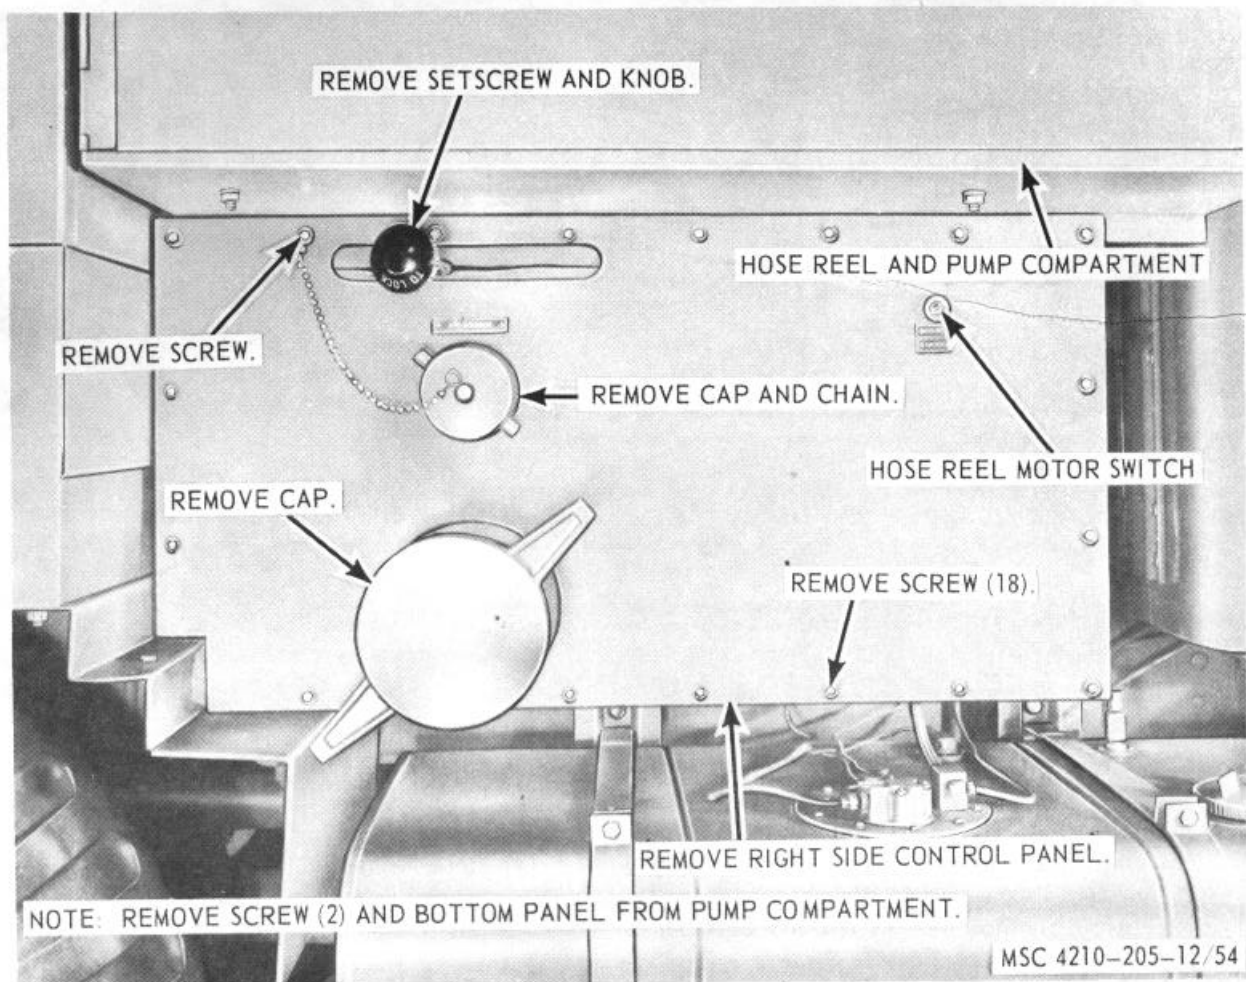

Figure 54. Right side control panels, removal and installation.
- (1) Remove the hose reel switch (para. 102).
- (2) Refer to figure 54, and remove the right side control panel from the pump compartment.
- (1) Refer to figure 54, and install the right side control panels on the pump compartment.
(2) Install the hose reel switch (para. 102).